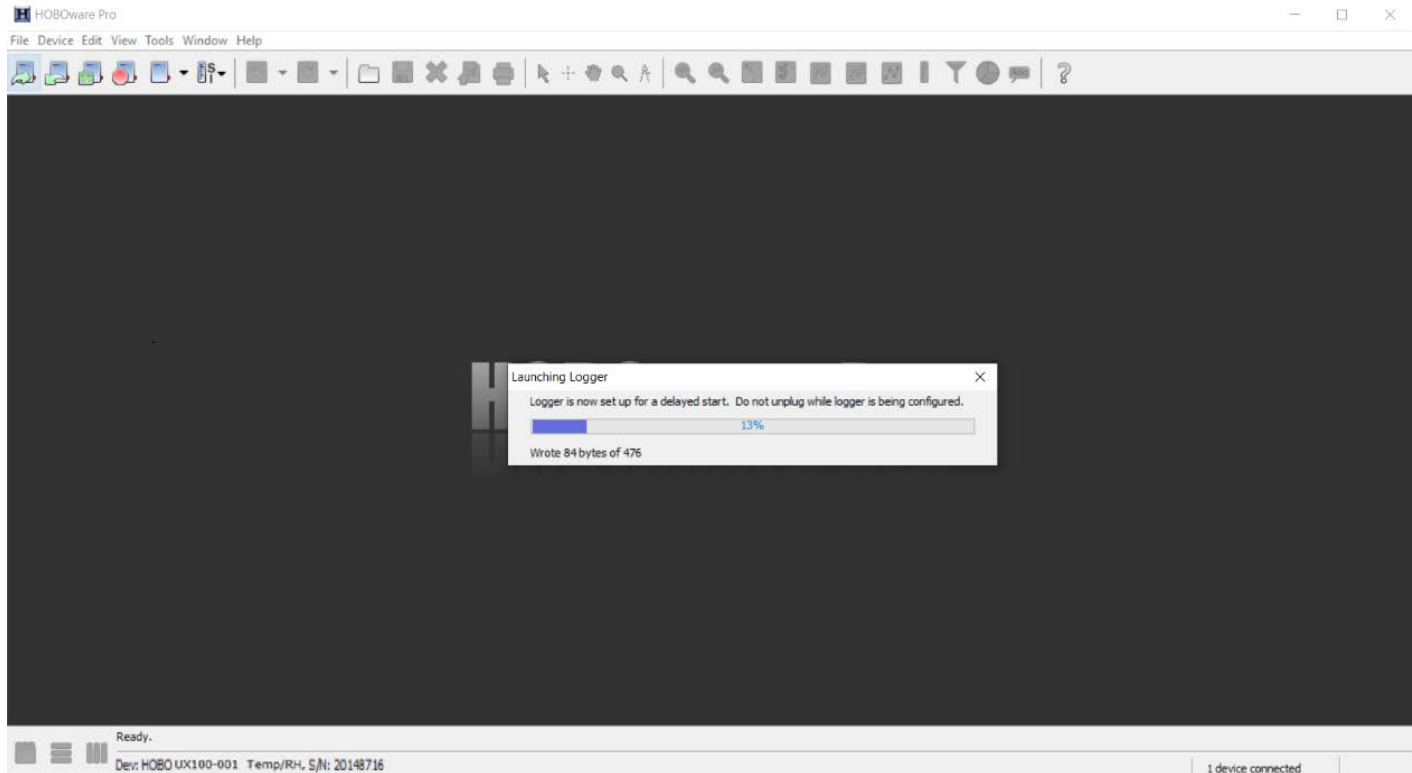

Figure A.8.8: Logger Launching from HOBOWare
10. Click “Delayed Start” to complete the configuration process. Do not unplug the logger from the computer until deployment is complete (shown in Figure A.8.8).